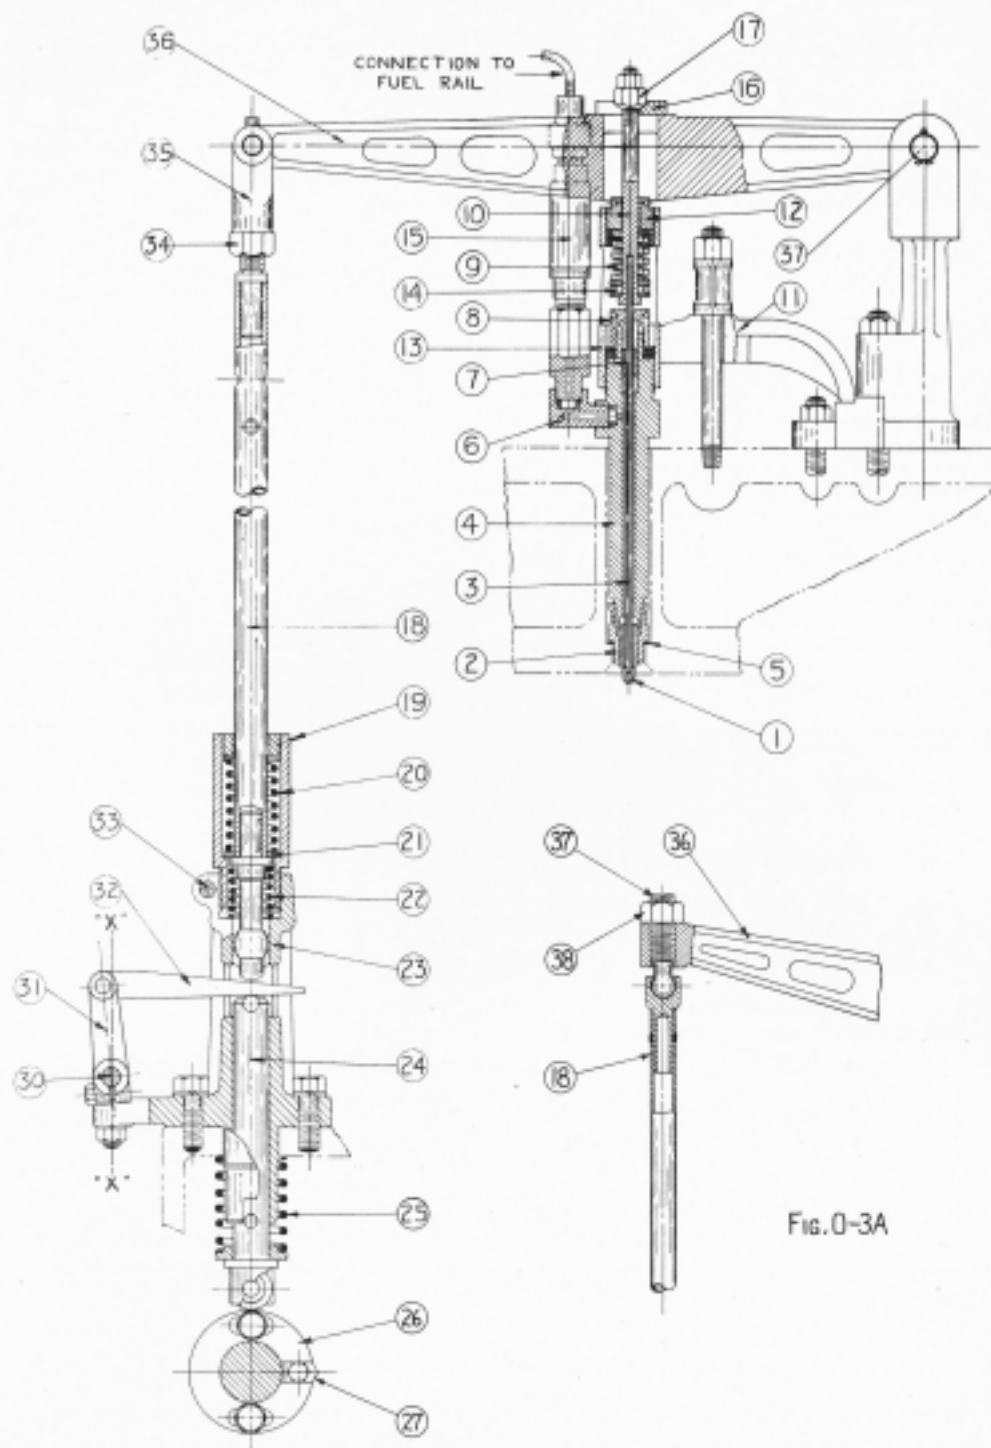

FIG. O-3A
locknut. On 6-1/2" bore engines the pushrod length is not changed. Referring to Fig. O-3A ball stud (37) in rocker (36) is screwed up or down instead. To adjust loosen locknut (38) and turn ball stud (37) with a screw driver. Tighten locknut (38) after the adjustment has been accomplished.